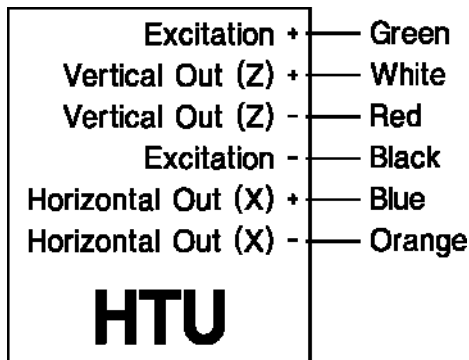
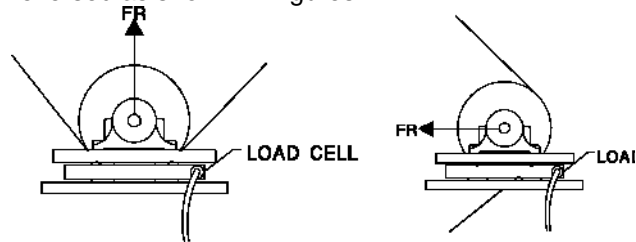

Figure 2-9. HTU Transducer Wiring Color Code
Figure 2-10. Inverted Force Configurations
The six HTU outputs are depicted in Figure 2-9. Inputting 10 VDC excitation results in two signal outputs, horizontal (X) and vertical (Y). Signal output polarity is always positive. In situations where web tension forces subtract (roll uplift or inverse horizontal applications) from gravitational or anticipated weight force (Figure 2-10), signal polarity (plus and minus) leads MUST BE reversed as shown in Figures 2-?.